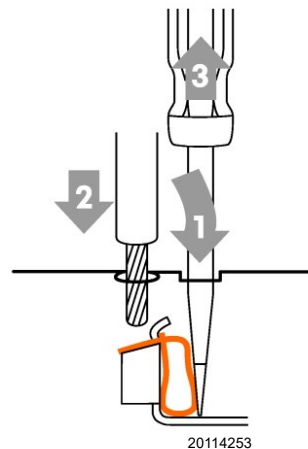

Fig. 18
- Insert the previously stripped cable and remove the screwdriver. Make sure the cable is securely fastened Fig. 18.